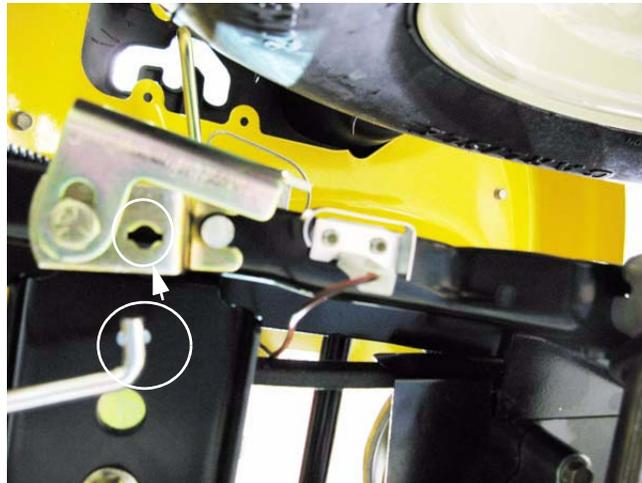

Figure 6.79
8. Disconnect the forward-neutral-reverse gear selector rod from the gear selector by rotating the rod 90 degrees. The coined ears on the rod will align with notches in the selector, and the rod can be pulled-free. See Figure 6.79.